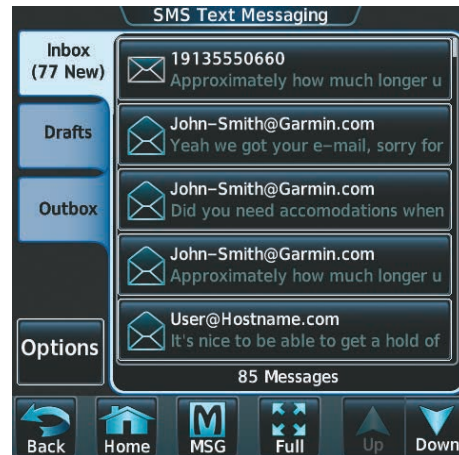

Figure 8-64 Touch Desired Message
- 2) Touch the desired text message in the Inbox list as in Figure 8-64. If necessary, scroll to the desired message. The text message is displayed as in Figure 8-65.